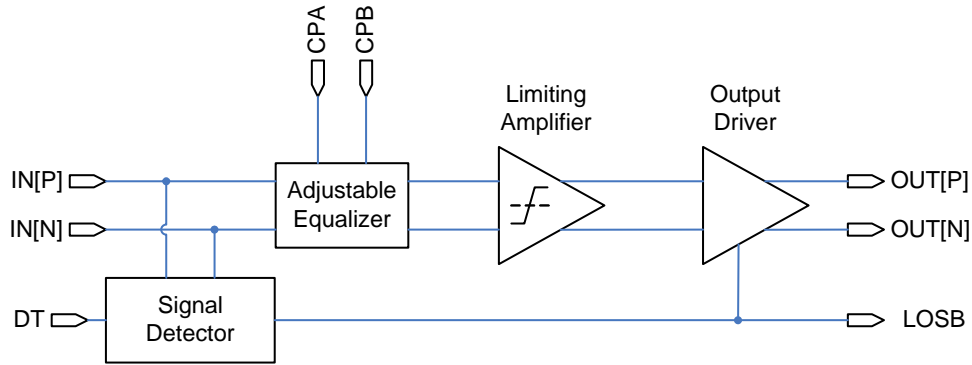

FIGURE 3. FUNCTIONAL DIAGRAM OF A SINGLE CHANNEL WITHIN THE ISL36411
The ISL36411 is an advanced quad lane-extender for high-speed interconnects. A functional diagram of one of the four channels in the ISL36411 is shown in Figure 3. In addition to a robust equalization filter to compensate for channel loss and restore signal fidelity, the ISL36411 contains unique integrated features to preserve special signaling protocols typically broken by other equalizers. The signal detect function is used to mute the channel output when the equalized signal falls below the level determined by the Detection Threshold (DT) pin voltage. This function is intended to preserve periods of line silence (“quiescent state” in InfiniBand contexts). Furthermore, the output of the signal detect / DT comparator is used as a loss of signal (LOS) indicator to indicate the absence of a received signal.
As illustrated in Figure 3, the core of each high-speed signal path in the ISL36411 is a sophisticated equalizer followed by a limiting amplifier. The equalizer compensates for skin loss, dielectric loss, and impedance discontinuities in the transmission channel. Each equalizer is followed by a limiting amplification stage that provides a clean output signal with full amplitude swing and fast rise-fall times for reliable signal decoding in a subsequent receiver.